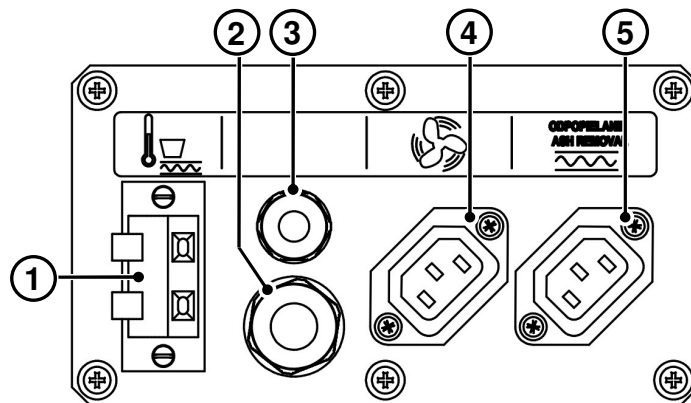
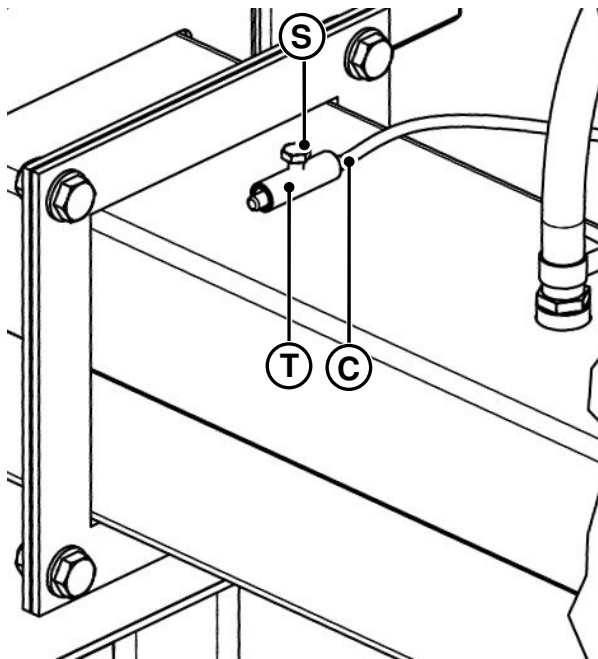

Fig. 2.5. Socket panel - rear of the boiler
Fig. 2.9. FUEL FEEDER TEMPERATURE SENSOR INSTALLATION
The power cable is supposed to be connected to the socket (4, Fig. 2.5) at the back of the boiler.
The ash removal engine is connected to socket 5 (fig. 2.5).
The measuring sensor (C, Fig. 2.9) should be installed into the socket (T) and fastened with a screw (S). **In order not to damage the metal casing of the sensor, tighten the screw with your hands. Connect the sensor to the terminal at the back of the boiler (1, Fig. 2.5).**